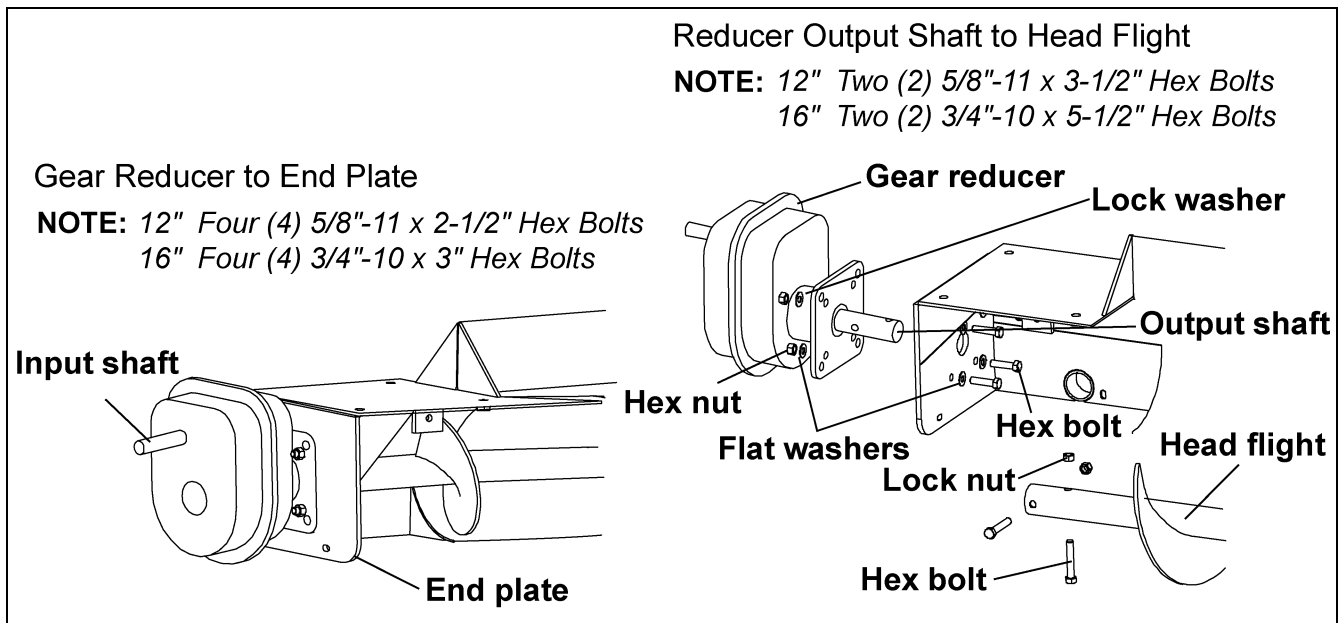

Figure 5H
- A. Slide the output shaft of the reducer through the end plate of the head section and into the end of the head flight. Secure the Reducer Output Shaft to the Head Flight with hex bolts and lock nuts. (See Figure 5H.)
- B. Bolt the reducer to the end plate of the head section using hex bolts, flat washers and lock washers, supplied with the reducer. (See Figure 5H.)